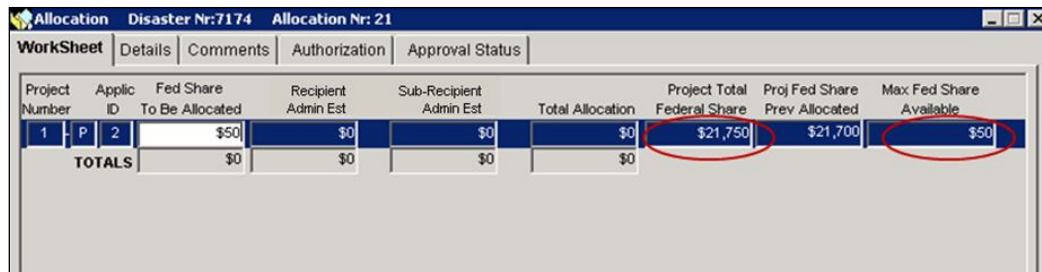

Figure 10-7: Allocations Worksheet Tab - Auto-filled Data Fields
9. The **Worksheet** tab is displayed with the following data fields auto-filled by the system (Figure 10-7).